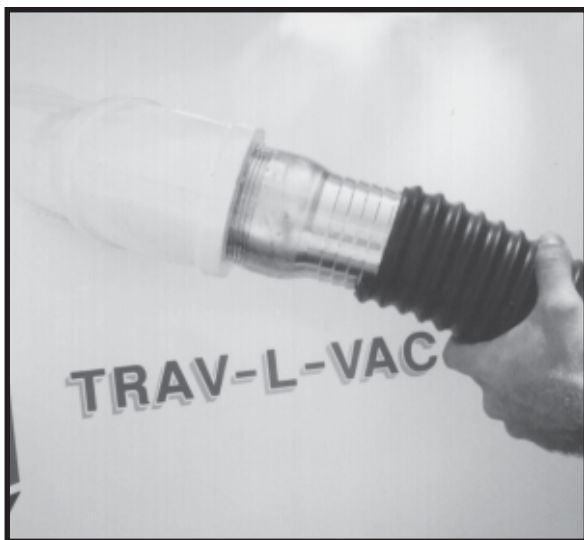

FIGURE 1
2. Connect coupling of suction hose to coupling on vacuum inlet port. (Figure 1)